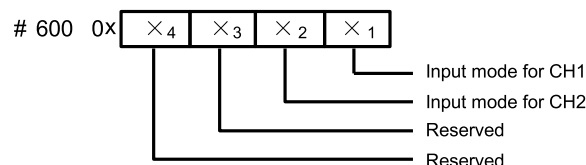

Figure 2-1 Mode setting element vs. channel
- BFM#600: input mode selection, used to set the input modes of CH1~CH2. See Figure 2-1 for their correspondence.